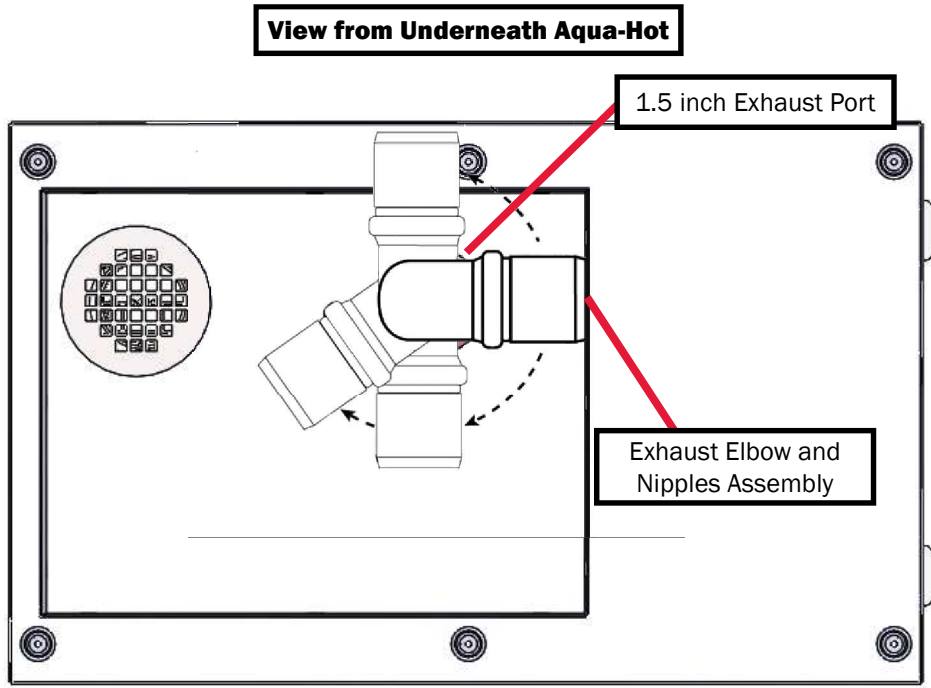
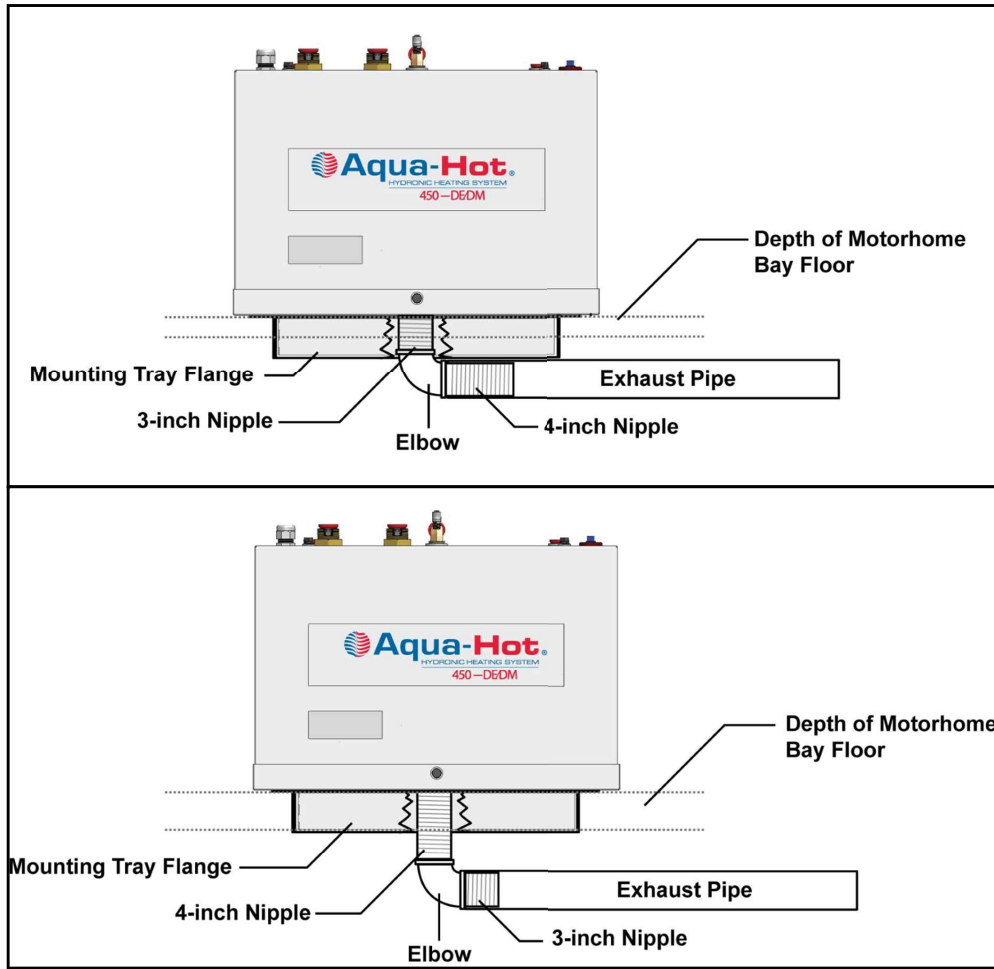

Figure 16
Figure 17
- Angle the exhaust pipe towards the rear of the vehicle, so that exhaust fumes will naturally move away while the vehicle is in motion. See Figure 16.
- The Aqua-Hot is supplied with a 3 inch and 4 inch black pipe nipple (1.5 inch diameter) along with a 1.5 inch exhaust elbow. Reference Figure 16. These three exhaust system components **MUST BE** utilized with all product installations. Be sure to reference Figure 17 and 18 to determine which exhaust nipple should be connected directly to the Aqua-Hot's exhaust port (the 3 inch of the 4 inch black pipe nipple).